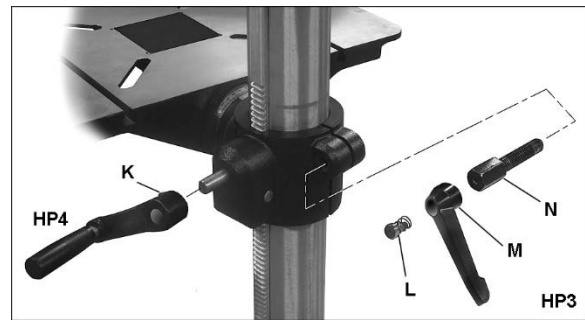

Figure 9
12. Slide table elevating handle (HP4, Figure 9) onto protruding shaft of worm. Make sure the set screw in the handle aligns with the flat on the worm shaft.
13. Tighten set screw (K) in table elevating handle with 4mm hex key.
14. Mount column locking handle (HP3, Figure 9) to rear of table bracket. The quickest way to install this is to remove the handle by unscrewing the screw with its spring (L). Insert the bolt (N) into the table bracket hole, then reinstall handle (M), spring and screw (L).